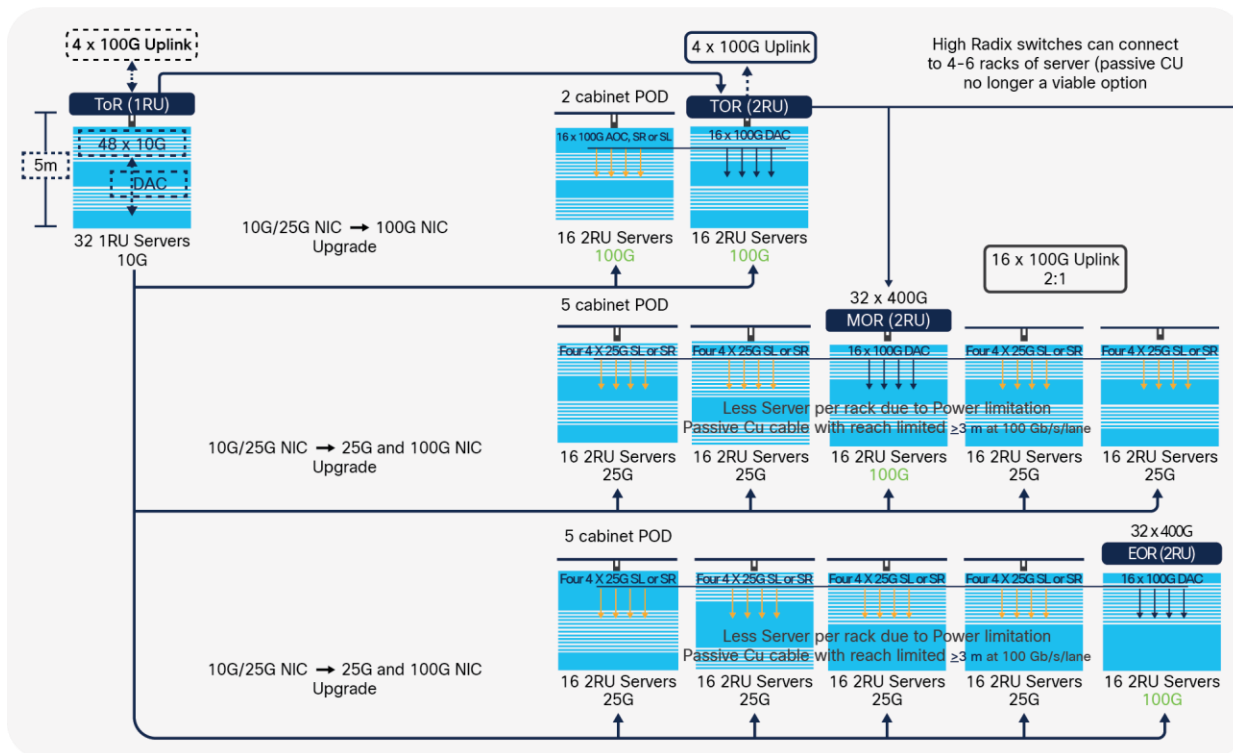

Figure 2. Transition from TOR to EOR/MOR for sparsely populated racks using high-radix switches
The scenario in Figure 2 is offering an alternative to the traditional data center switch-server connectivity setup. In this scenario, a five-cabinet POD deployment is utilized with (16) 2RU servers in each cabinet using a single 48-port 400G switch. It's a hybrid model of (16) 100G servers in the middle cabinet and (64) 25G servers in the remote cabinets. This switch is providing (64) ports of 25G achieved by using (16) ports of 100G in breakout mode (4x25G downlinks), 16 ports of 100G, and (16) ports of 100G uplinks delivering a 2:1 oversubscription.